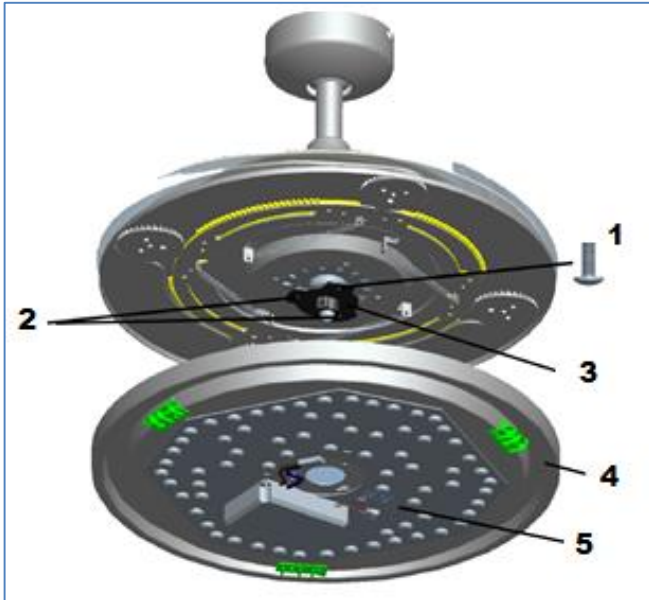

Fig. 6
- 2) Loosen the screw (1) from the base bracket (3). Align the two slot screws (2) with the keyhole slots of the lamp base (4). Fig.6